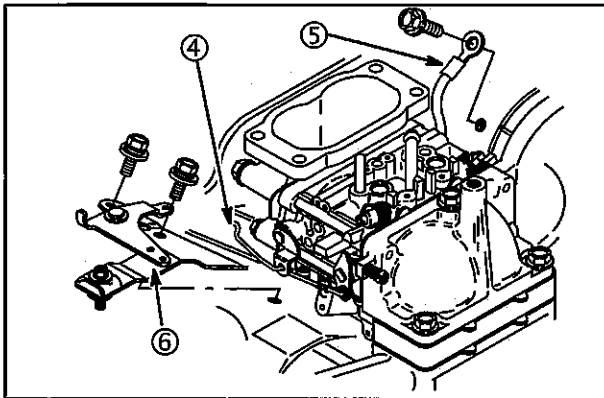

Fig. 17
2. Remove anti-afterfire solenoid ground wire (5).
3. Remove choke control bracket (6) and disconnect link (4), Fig. 17.